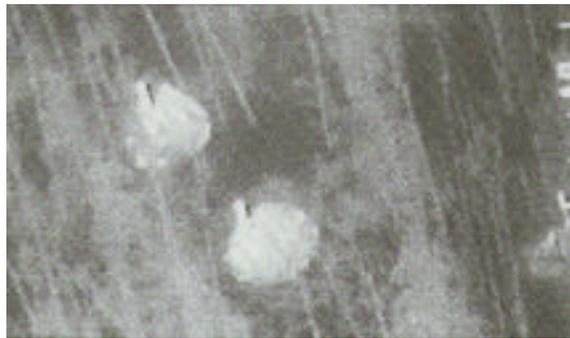

Fig. 6-3 Thermal Image of Two 10 Man Arctic Tents
7. Decide type of improvised shelters to be constructed (if tents are not used). If there is a high probability of the enemy employing thermal detection devices/sights, improvised shelters such as thermal shelters or molded dome shelters (quingy huts) emit a much smaller thermal signature than heated tents or personnel sleeping in unheated tents (see figure 6-3)